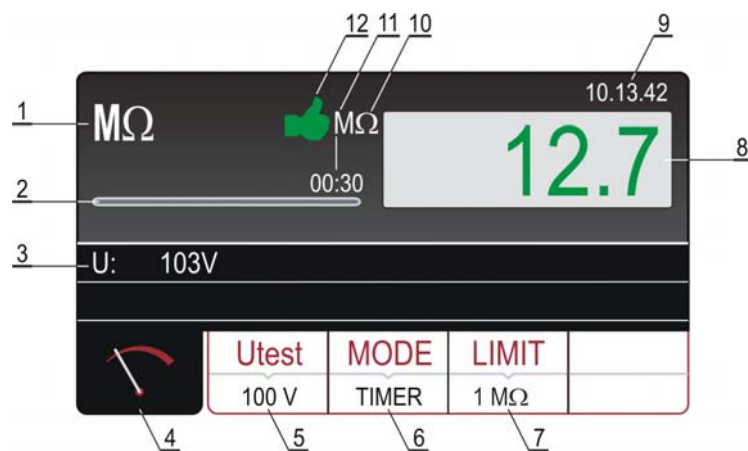

Figure 11: Display with RISO test result
- 7) Carry out the measurement by pressing the **START/STOP** button. The measurement will start to run and will be stopped after pressing the **START/STOP** button again (MANUAL mode) or after elapsing set measurement time (TIMER mode) or after reaching stable result (AUTO mode). Test result will currently be displayed in green colour (result higher than or equal to set limit value) or in red colour (result lower than set limit value). Final result will be equipped with green  symbol and with beep-beep sound (result OK) or with red  symbol and with longer beep sound (result not OK). See the display outlook with test result on figure 11.